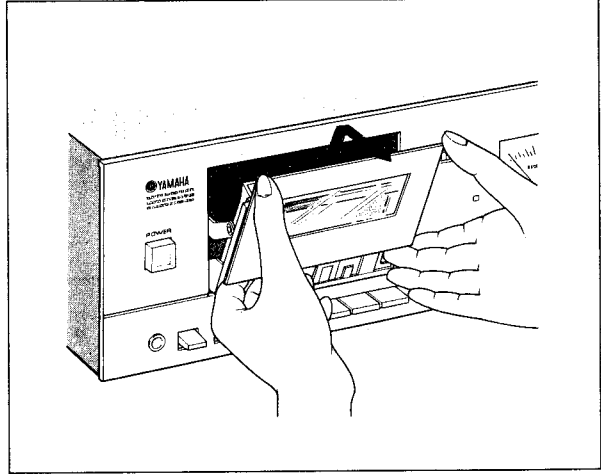

Fig. 1
- (1) Remove the front panel. (Refer to Step 3.)
- (2) Disconnect the lead wires which are connected to the tape mechanism unit.
- (3) Remove the cassette door as in Fig. 1 so that it is not removed due to carelessness.
- (4) Remove screws (3) to (6) in Photo 4 and then remove the tape mechanism unit.